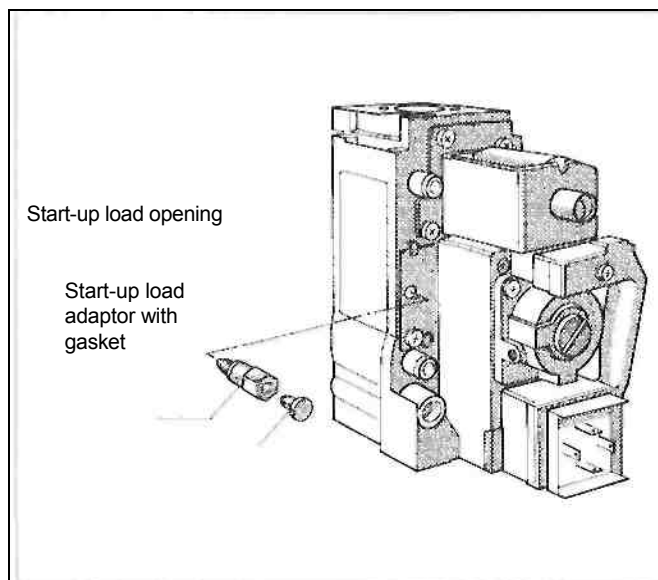

Fig. 4: Adjust start-up load for LPG
- Remove the protective cap via the start-up load opening of the new Gas valve and screw in start-up load adaptor (ID: 230) (Fig. 4).